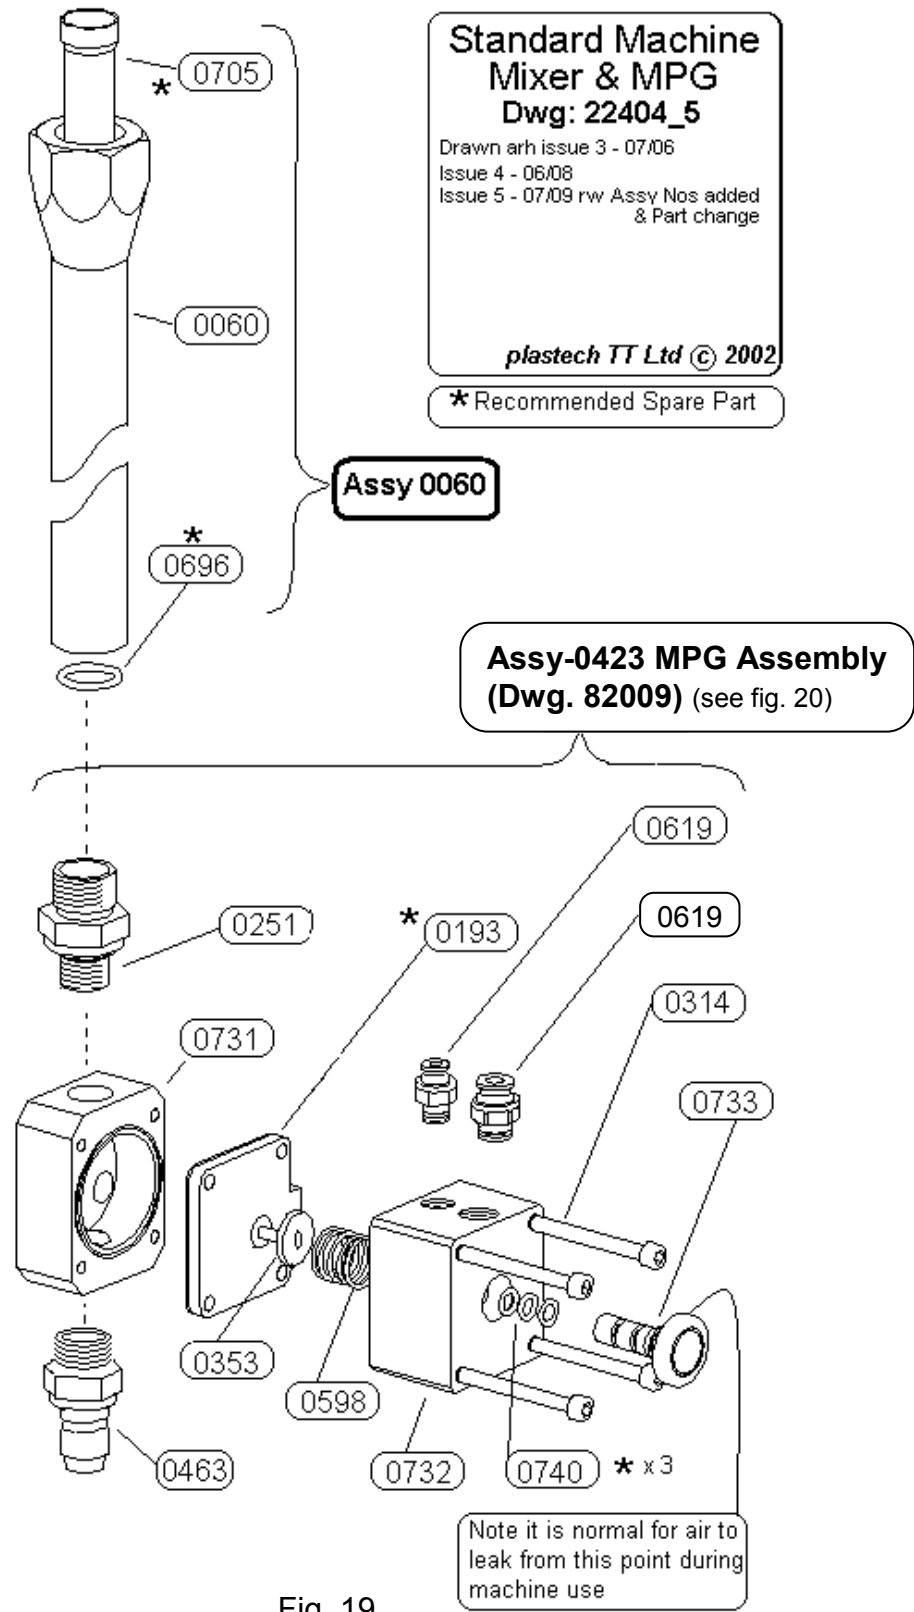

Fig. 19
# Head Mixer and Mould Pressure Guard (MPG) (See fig. 19 & 20)
**Mixer Tubes:** (see figure 19)